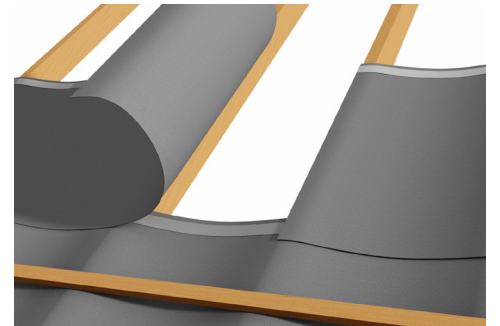

fig 4: Vertical lap
5. Vertical overlaps should be a minimum of 100mm and coincide with rafter positions where the underlay is unsupported (fig. 4). The distance from fixing to the edge of the underlay should be a minimum of 50mm. Avoid vertical laps over the same rafter in consecutive courses.